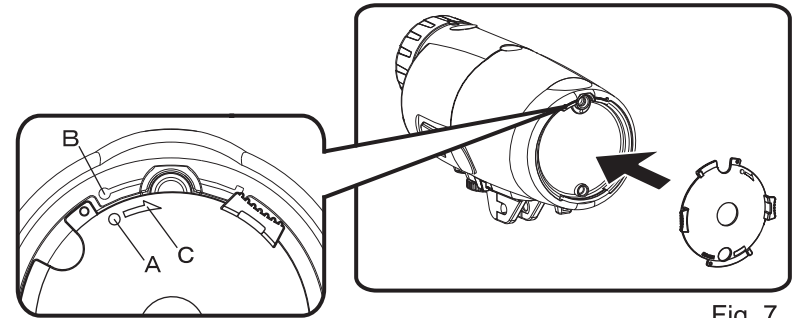

Fig. 7
Lightly push and fit the diffuser in the strobe reflector, then turn the diffuser in the direction of the arrow (C) until stops. (Fig. 7)